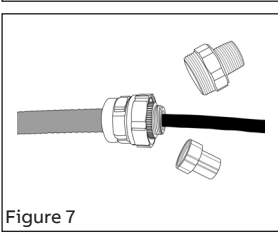

Figure 7
- Disassemble hub from body sub-assembly by loosening union. Unscrew sealing chamber from body sub-assembly (Figure 7).